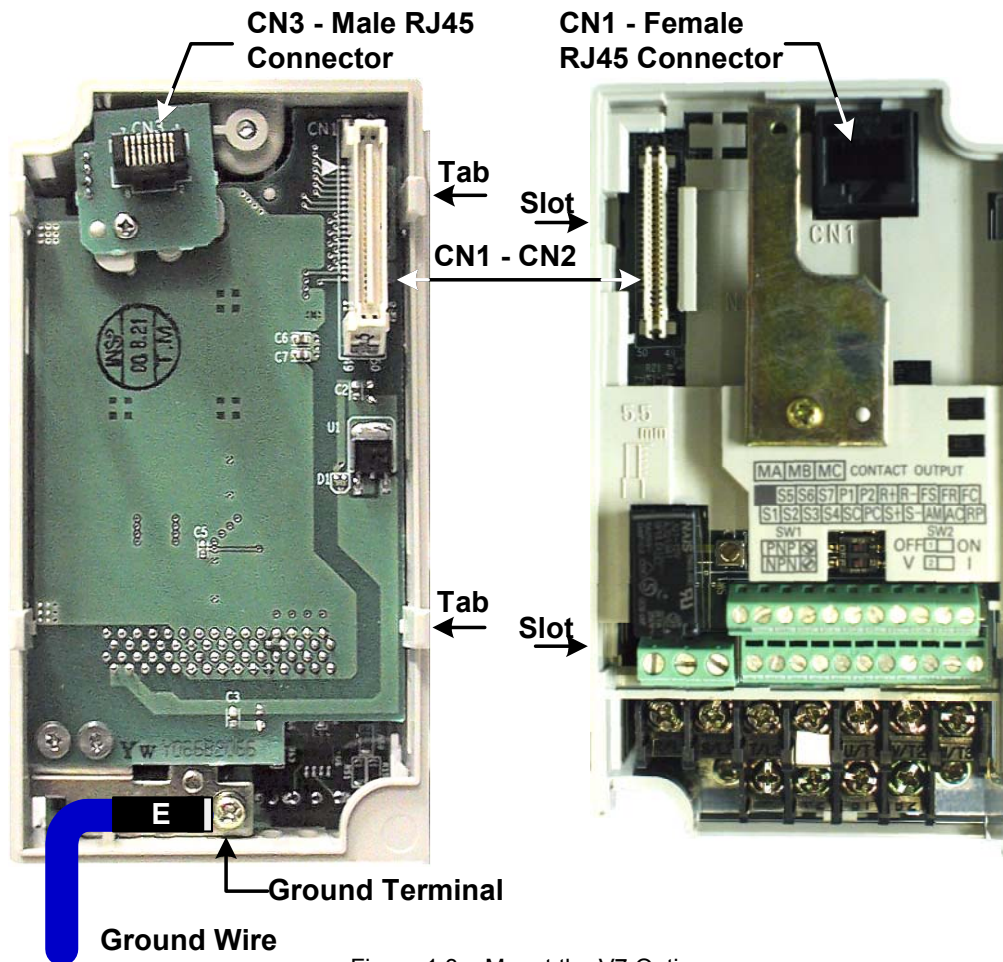

Figure 1.3 – Mount the V7 Option
- 4.4:** Connect the ground wire provided to the ground connector on the back of the *V7 PROFIBUS-DP Option*. Refer to **Table 1.2 – Ground Cables & Drive Models** and to **Figure 1.3 – Mount the V7 Option**.
- 4.5:** Mount the *V7 PROFIBUS-DP Option* onto the drive. Refer to **Figure 1.3 – Mount the V7 Option**.